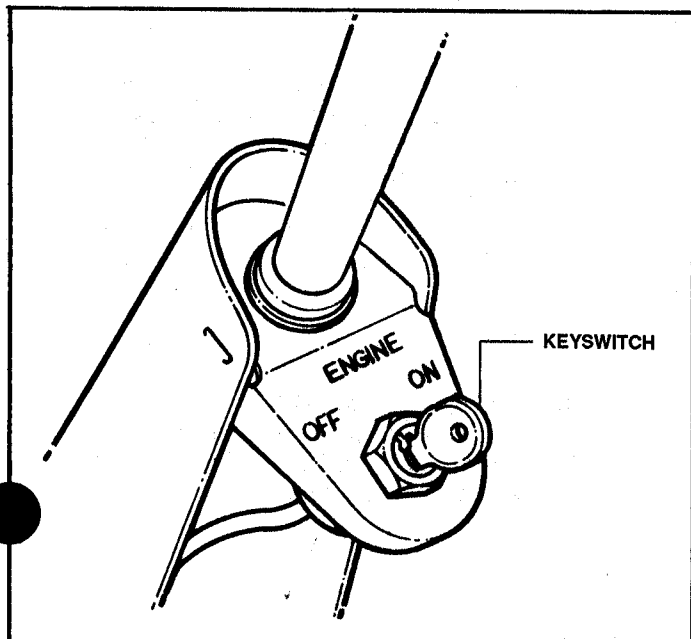

FIGURE 6.7
4. Turn Key Switch to the "ON" and "OFF" position. With Key Switch in the "OFF" position, the indicator on the tester should indicate continuity. See Figure 6.7.